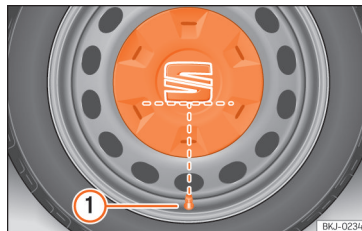

Fig. 32 Correct positioning of the central wheel trim for steel rims.
- Fit the central wheel trim onto the rim. The bottom of the "S" of the SEAT badge should align with the inflation valve »» Fig. 32 ①.